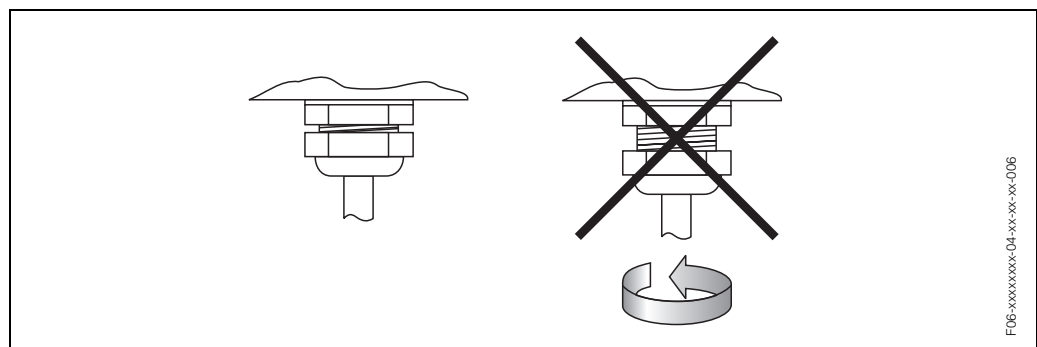

Fig. 51: Installation instructions for cable entries on the transmitter housing
- Firmly tighten the cable entries (Fig. 51).